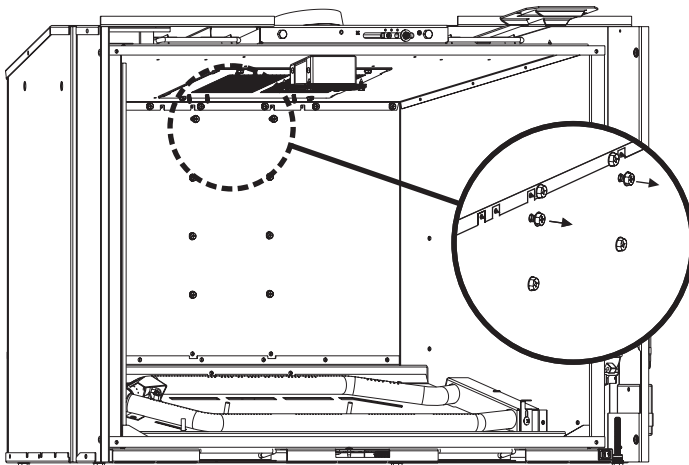

Figure 1
2. Loosen screws indicated. **See Figure 1.**